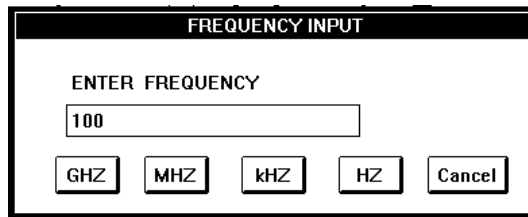

Figure 5-18: Frequency Input Dialog Box
4. To set the starting frequency or step size, click **Freq** or **Step** to open the corresponding data entry dialog box (Figure 5-18).